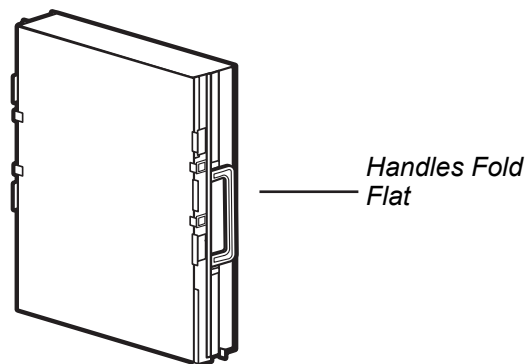

Figure 39 Collection Cell, Handle Folded
4. When there are no visible water droplets left in the COLLECTION CELLS, reinstall them into the air cleaner cabinet. Be sure to fold the COLLECTION CELL handles flat as shown in Figure 39.